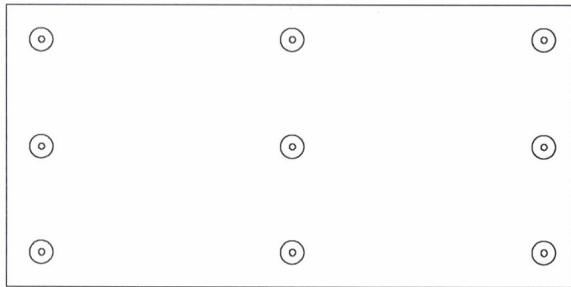

Figure 4 Fastener pattern (9 No. per board) Board size to 2.270 x 1.200 m – 3.3 fixings/m²
- Please refer to the recommended fixing patterns (see Figure 4)